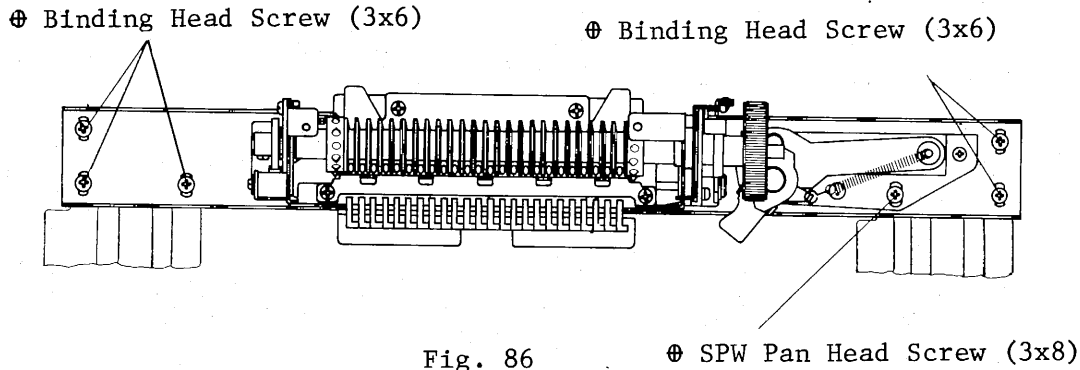

Fig. 86
- (1) Insert a non-punched card (or Stockinet Card of Model 313) in Pattern Unit. Loosen five $\oplus$ BW binding head screws (3x6) and one SPW Pan Head Screw (3x8) used to fix Needle Bed Bracer A and Pattern Base together as shown in Fig. 86